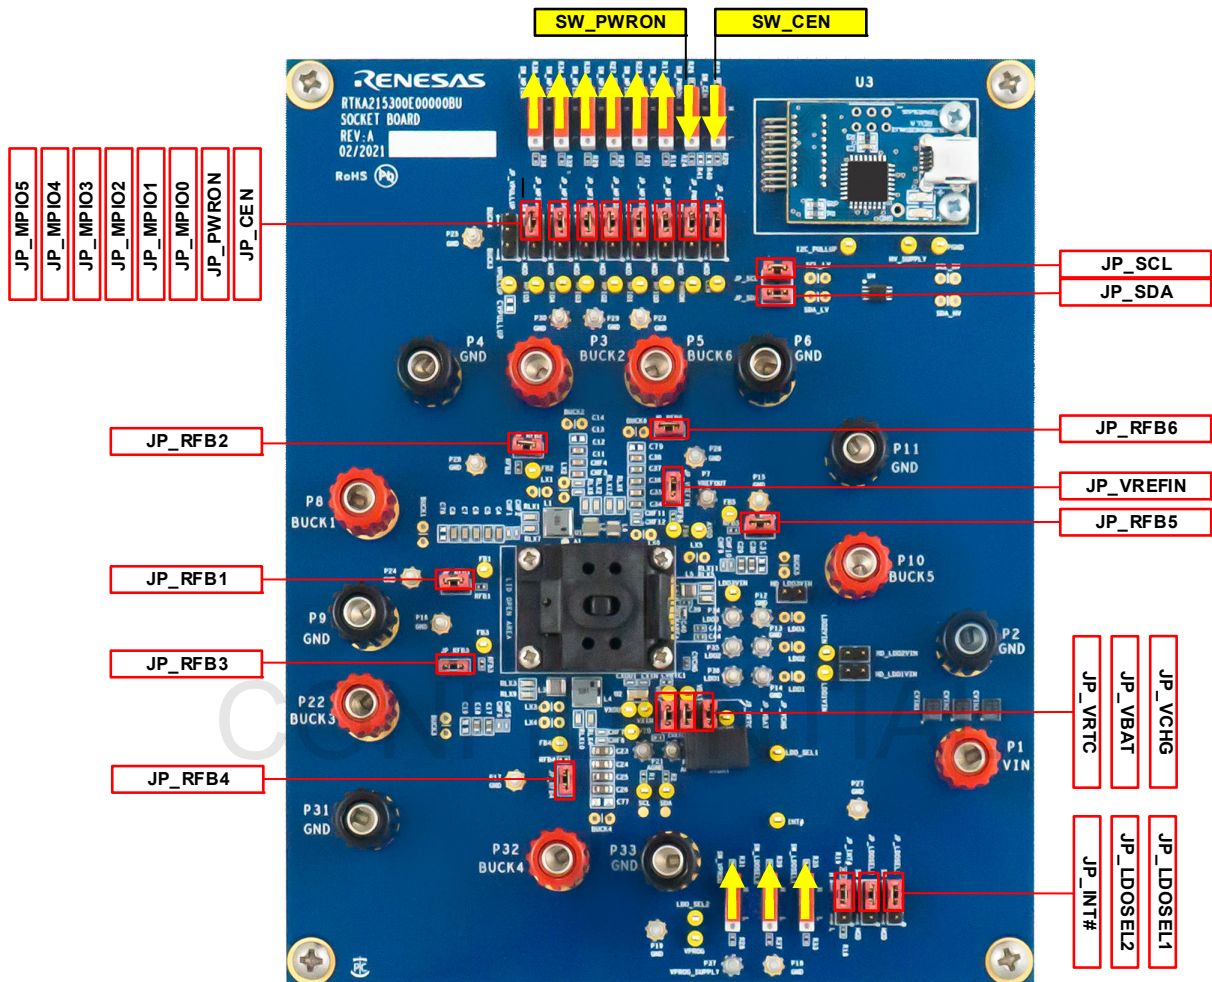

Figure 4. Default State of Switches and Jumpers
1. See Figure 4. Set all the switch positions as shown by yellow arrows.